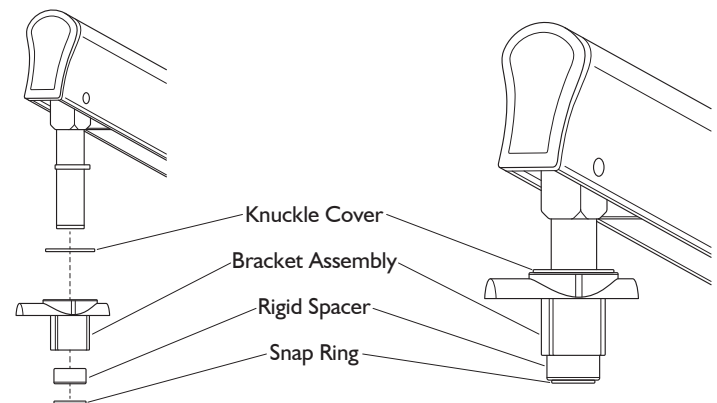

Figure 3. Install Bracket Assembly to Flex Arm
7. **Attach Bracket Assembly:** Remove bracket from Unit Mount Rigid Arm and attach to knuckle on flex arm assembly as shown in Figure 3.